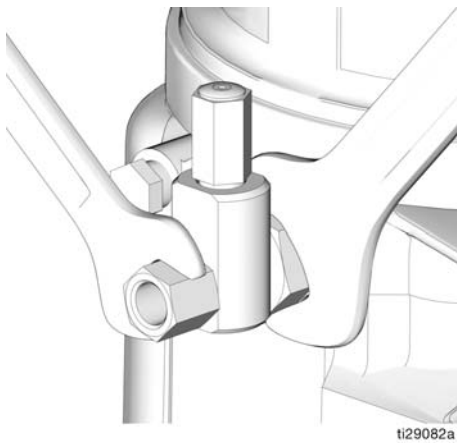

FIG. 31
1. Loosen pump element fitting (FIG. 31).
3. Tighten pump element fitting using two wrenches working in opposite directions (FIG. 31).